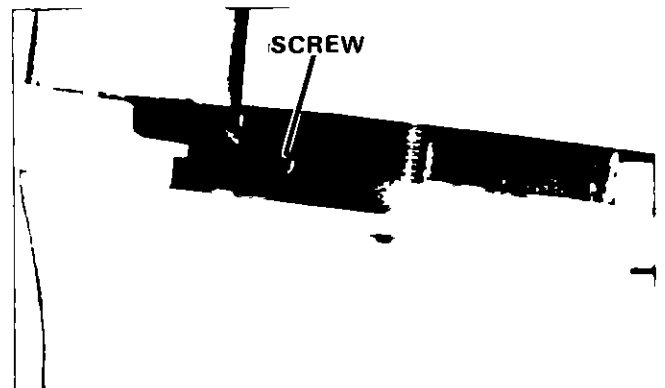

Figure 44. Removing Gear Shift Rod Screw.
- 3 Pull lower unit down and remove screw joining gear shift rods Figure 44